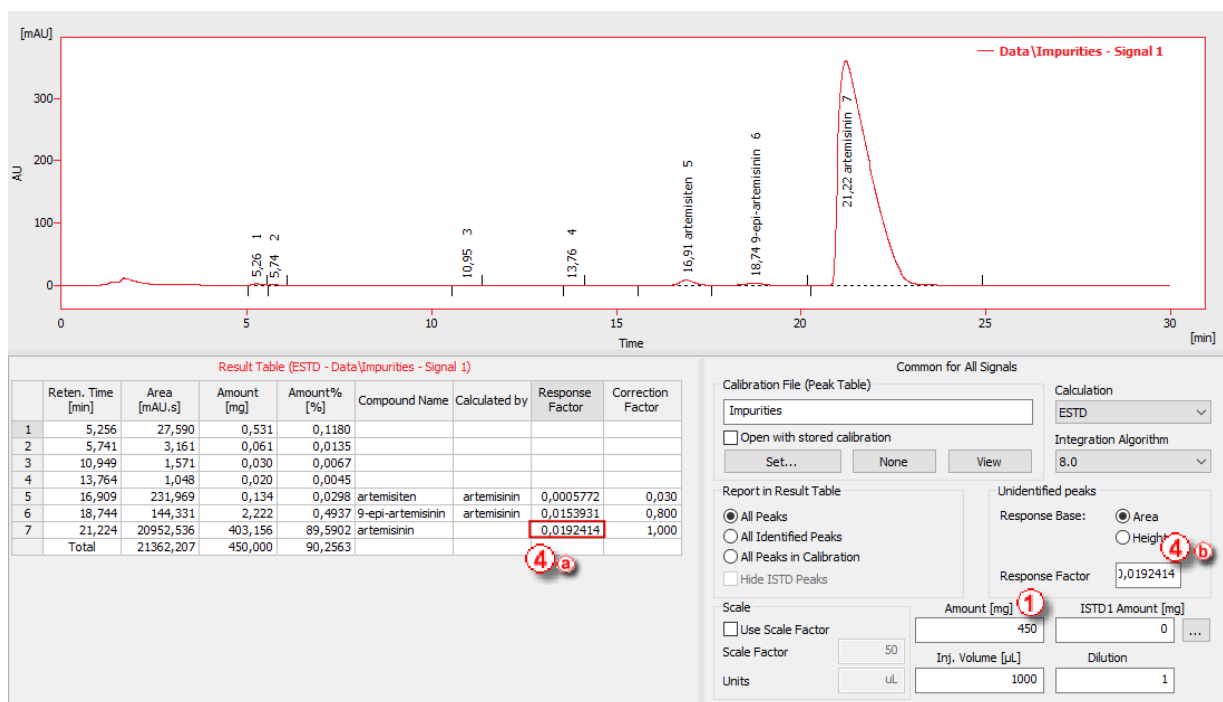

Fig. 5 – Calculated results for percent content determination of the impurities
This calibration should be linked to the sample chromatogram and it is necessary to amend a couple more settings within the chromatogram window to make Clarity to calculate in correspondence with given equation. The adjustments should be inserted in the calculation pane on the right side of the result table. It is necessary to fill in the sample weight in the Amount ① field. As a calculation basis of the given equation is artemisinin substance it is necessary to copy the response factor of the artemisinin substance from the chromatogram Result Table (Response Factor column ④ a) to the Response Factor field ④ b) in the Calculation pane. The described setting is shown on the figure 5.